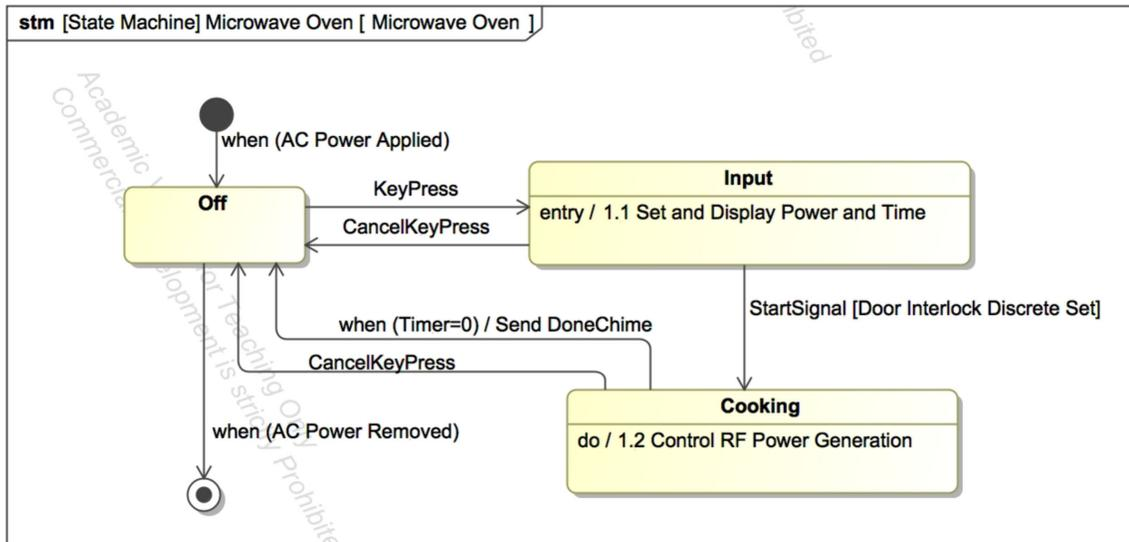

Figure 32. State Machine Diagram
B. Stateful Behavior is modeled using State Machine Diagrams (STMs) and is often associated with individual Blocks or a group of interacting Blocks. In fact, an STM is frequently the Classifier Behavior of a Block. Fig. 32 is a simple STM for the microwave oven. The steps to create this diagram are: